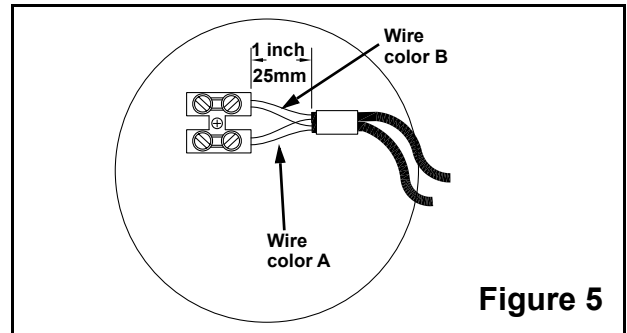

Figure 5
- b. Connect both color "A" wires to the same pole on the terminal block. Connect both color "B" wires to the same pole on the terminal block. The result must be 2 wires of the same color connected to each pole on the terminal block. See Figure 5.